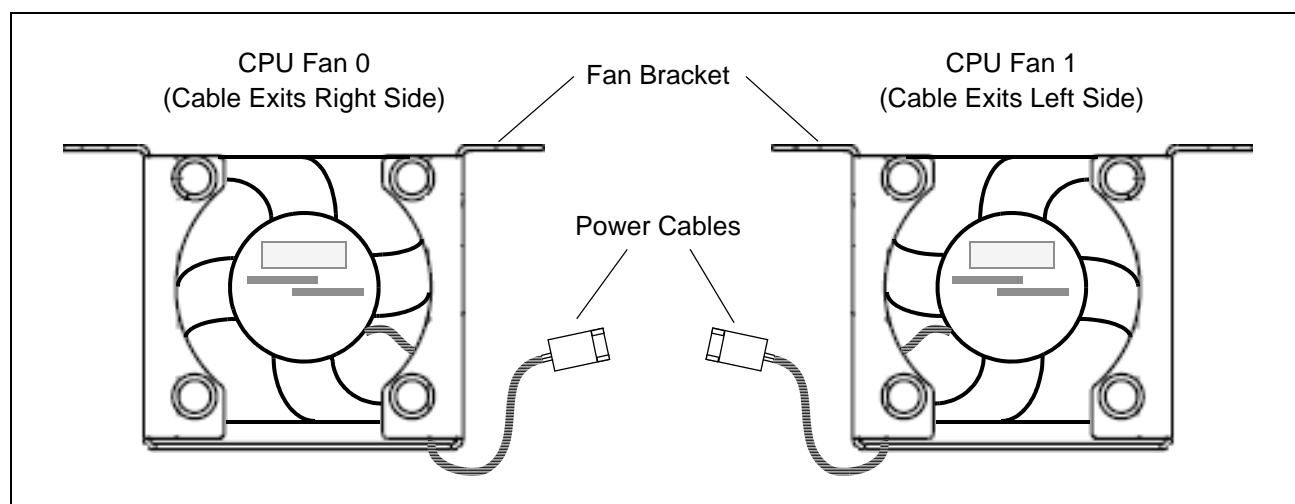

Figure 48 CPU Fans, Distinguished by the Side on Which the Power Cable Exits
- c. Ensure that the power cable exits the fan on the correct side. Figure 48 on page 90 shows the correct power cable positioning for each fan.